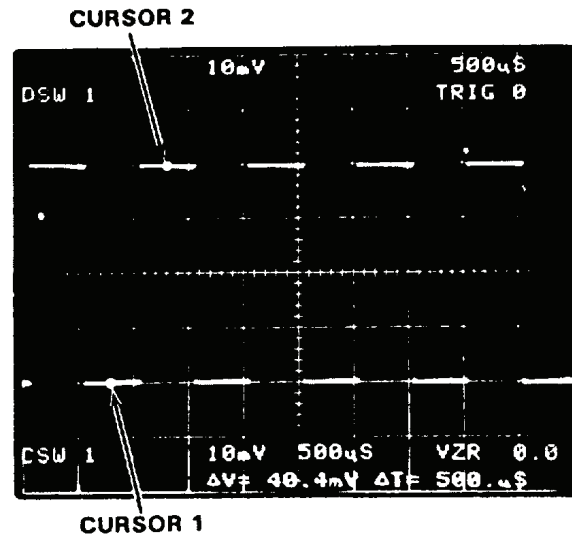

Figure 8. Typical CURSORS Δ display.
- (5) Press **CH 1 AC** pushbutton and set **VOLTS/DIV** to **20 mV**.
- (6) Connect oscilloscope calibrator **SOURCE/MEASURE CHAN 1** output to **CH 1** input and adjust oscilloscope calibrator frequency for 1 kHz and amplitude for 50 mV.
(7) Press **f** (function) and **CURSORS Δ ON** pushbutton and adjust **CURSORS** as shown in figure 8.